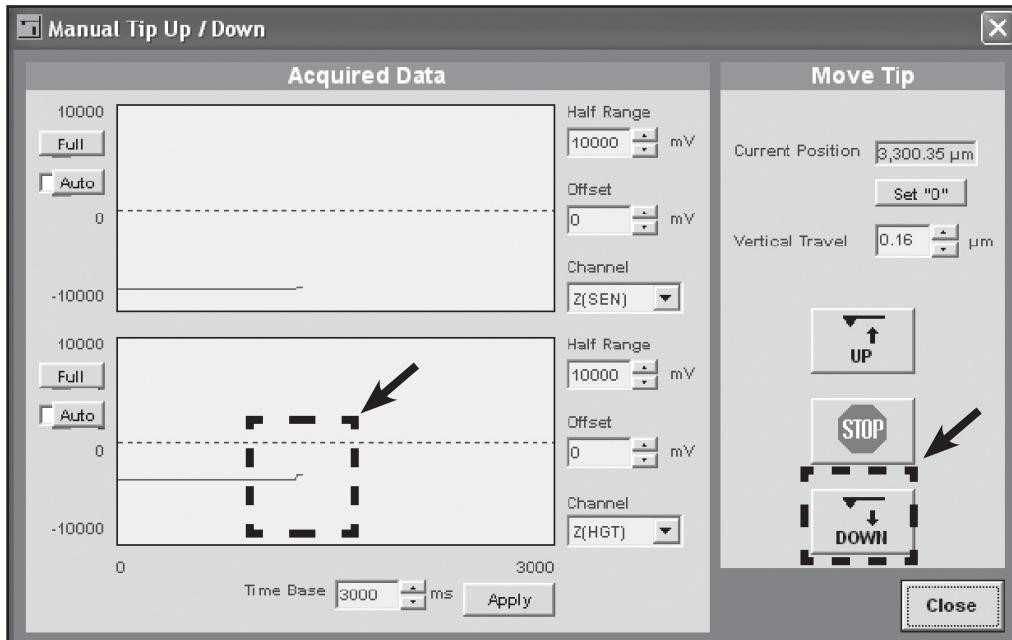

Figure 3.47: Adjusting the distance between the probe and the sample using the Z motors, so the Z(HGT) voltage is approximately zero mV.
- Click the Up arrow in the Set Point box to increase the interacting forces (decrease the distance between the probe and the surface) while monitoring the shape and voltage on the Z Actuator line profile. In Figure 3.47, the starting set point is -2940mV and the piezo voltage -875mV.
- Click the Up arrow once or twice and see if the line profile starts to trace the topography. The voltage reading will change to a more negative value. Figure 3.47 shows a scan in progress while the set point is being adjusted. You can see that the adjusted set point is -2867mV.